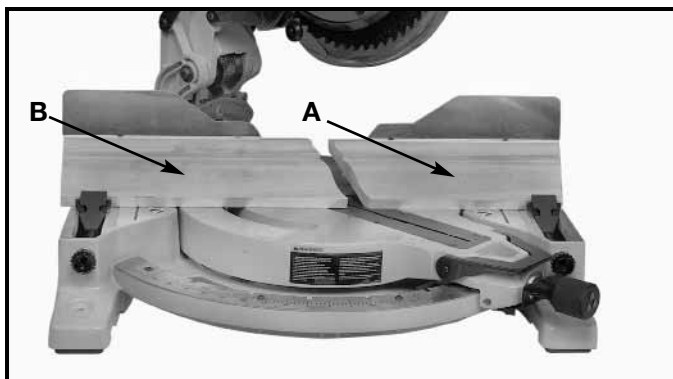
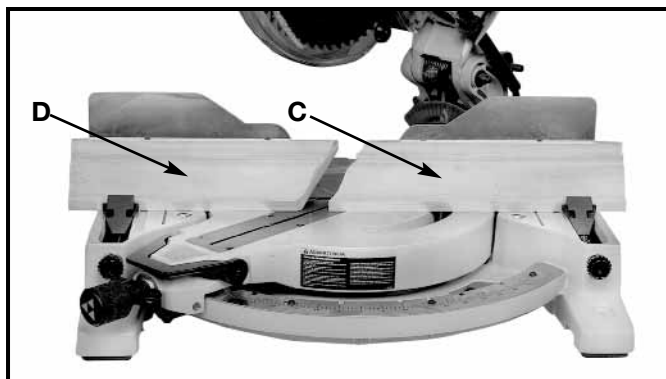
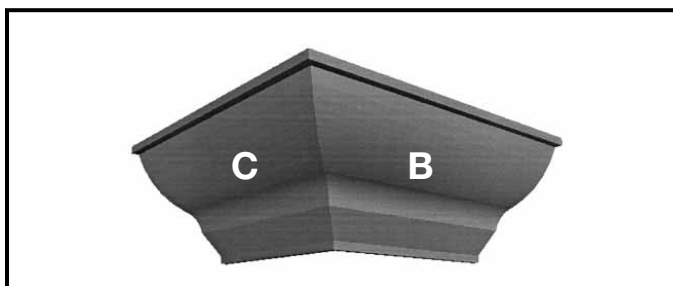
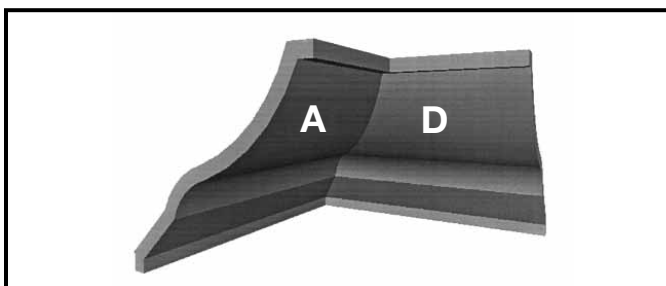

Fig. 46A
Fig. 46B
Fig. 46C
Fig. 46D
NOTE: The piece of crown moulding used for the inside corner will always be on the right side of the blade, as shown at (A) Fig. 46A. The piece of crown moulding used for the outside corner will always be on the left side of the blade, as shown at (B) Fig. 46A.
5. Place the crown moulding on the table as described in step 2 and make the cut. In this case, the piece of crown moulding used for the outside corner will always be on the right side of the blade, as shown at (C) Fig. 46B. The piece of crown moulding used for the inside corner will always be on the left side of the blade, as shown at (D) Fig. 46B.
6. Fig. 46C illustrates the two outside corner pieces; the piece cut at (B) Fig. 46A, and the piece cut at (C) Fig. 46B.
7. Fig. 46D illustrates the two inside corner pieces; the piece cut at (D) Fig. 46B, and the piece cut at (A) Fig. 46A.